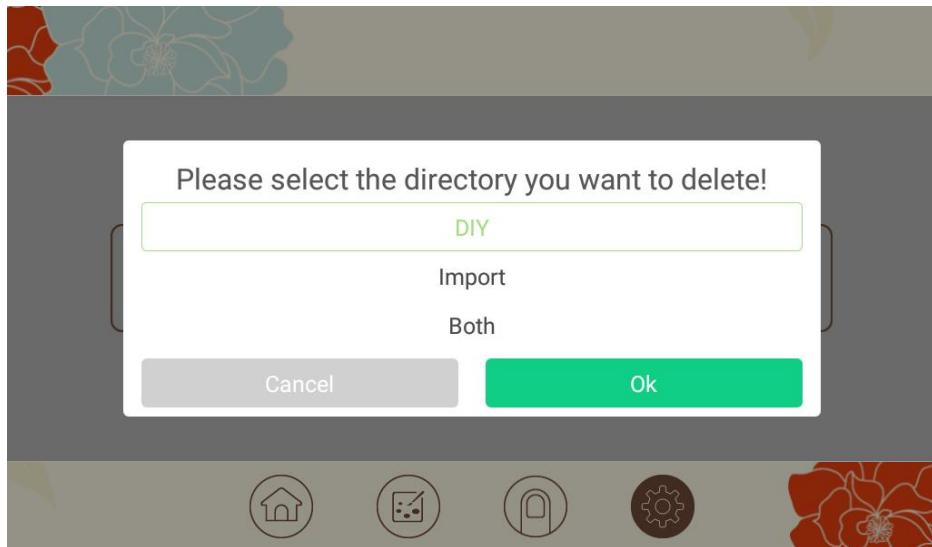

Figure 17
(3) Cache Cleanup: Press  to clean picture cache, including DIY patterns and uploaded pictures. Them can be cleared separately or simultaneously, as shown in Figure 17.